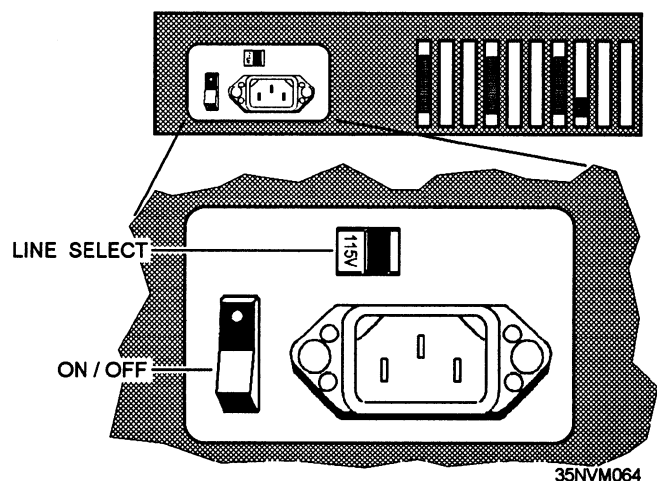

Figure 8-20.—Desktop computer back panel.
**APPLY POWER.** —Power is applied to the microcomputer with a simple ON/OFF switch usually mounted on the back of the desktop computer chassis (fig. 8-20). A separate monitor requires its own power switch. Portable micros usually have fixed time period rechargeable batteries (6, 8, or 12 hours) with a normal ac power option. Presence of system power is indicated by single indicator lamps on the front of the chassis and the monitor mounting. Sometimes in the same area as the ON/OFF switch, a selectable switch (fig. 8-20) called a voltage or line select switch allows the microcomputer to operate on voltages in the range of 100 to 130 volts or 200 to 230 volts.